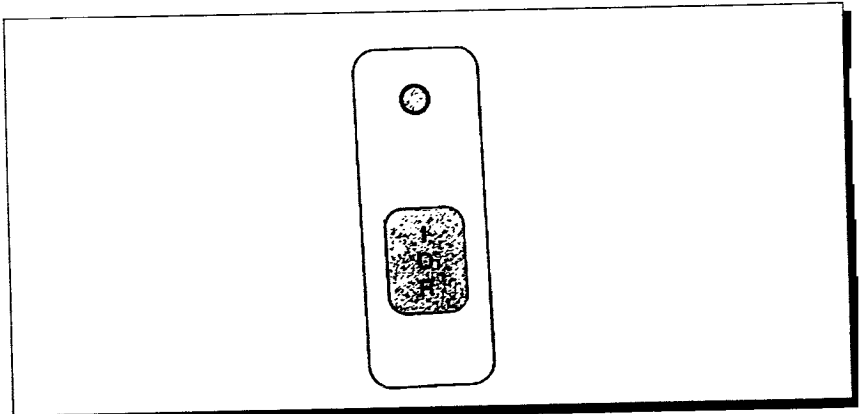

Figure 4.1
The shredder control panel is shown in Figure 4.1. To begin using the shredder, place the control switch in the Forward position (F). The shredder will start and you can begin feeding paper. When you have completed your shredding, place the control switch in the center Off (O) position.